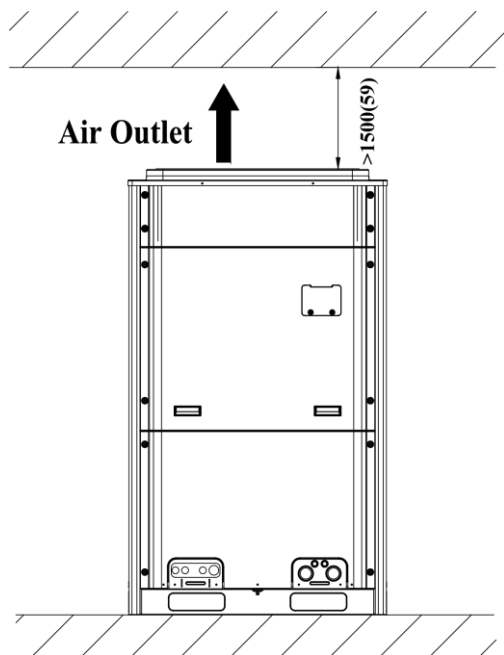
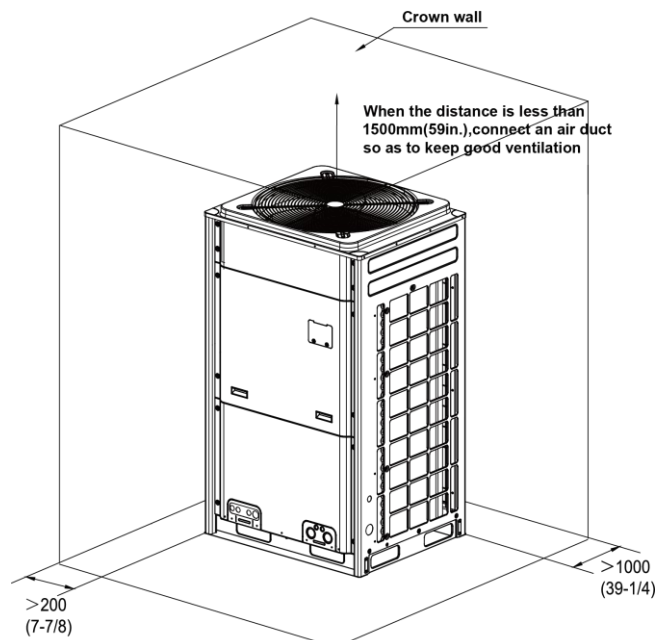

Fig.6
Fig.7
3.2.2 When there is wall (or similar obstruction) above the unit, keep the distance between the unit top and the wall at least 3000mm(118-1/8in.) or above. When the unit is located in a totally open space with no obstructions in four directions, keep the distance between the unit top and wall at least 1500mm(59in.) or above (See Fig.6). When space is limited within 1500mm(59in.) or the unit is not set in an open space, air return pipe is required to be installed in order to keep good ventilation (See Fig.7).